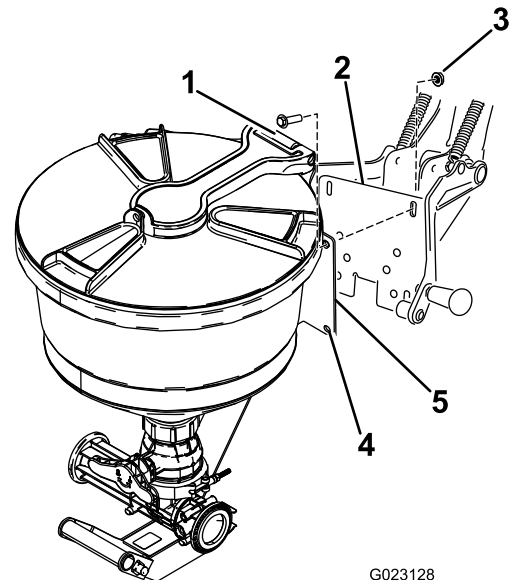

Figure 12
1. Align the holes in the eductor mount plate with the slots in the cradle support frame (Figure 12).